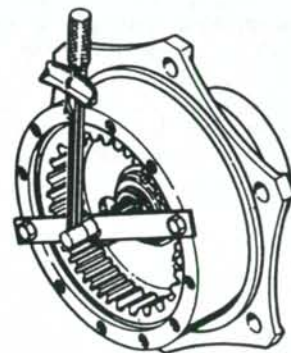

Fig. 11—Use special fixture and torque wrench to check wheel bearing preload. Refer to text.
When reassembling, heat bearing cones to a temperature of 250° F (120° C) for aid in installation. Install hub (21) without oil seal (23) and dust seal (24). Install ring gear and gear hub assembly, centering ring (16), original shim pack (15), thrust washer (14) and locknut (13). Tighten locknut to a torque of 400-480 ft.-lbs. (542-650 N·m). Using a special fixture and torque wrench as shown in Fig. 11, check the torque needed to